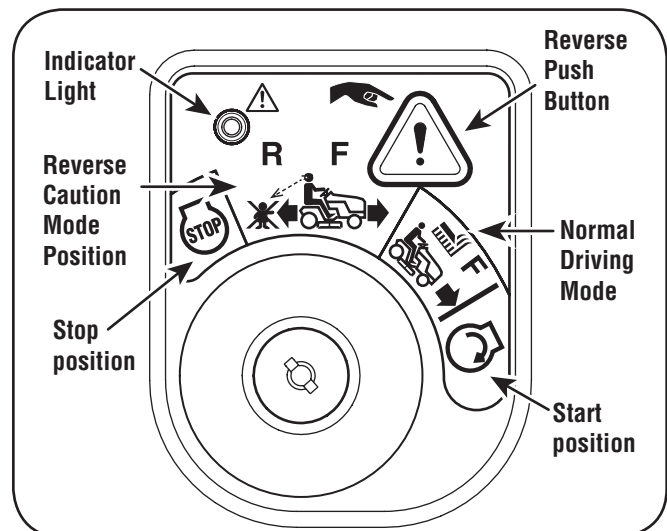

Figure 5-1
3. Depress the REVERSE PUSH BUTTON (Orange, Triangular Button) at the top, right corner of the key switch module. The red indicator light at the top, left corner of the key switch module will be ON while activated. See Figure 5-1.